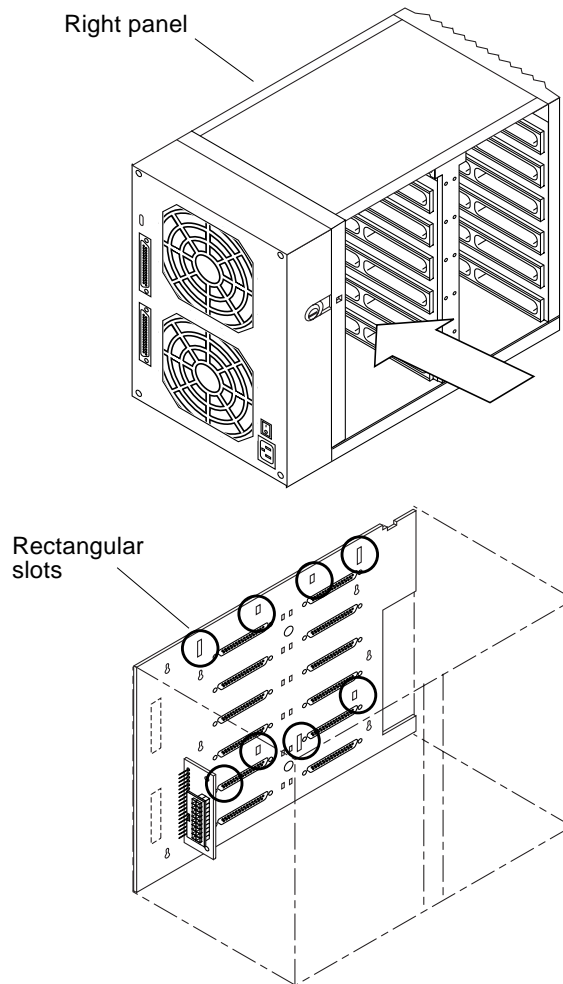

FIGURE 5-5 Rectangular Slots on Backplane
Note – The right panel is held onto the chassis by **eight** plastic tabs that hook into holes in the chassis wall. The backplane is attached to the other side of the chassis wall. You must unhook the tabs without removing the backplane by accessing the tabs through slots in the backplane (FIGURE 5-5).
5. **Facing the left side of the unit, find the rectangular slots on the backplane (FIGURE 5-5). You may need to use a flashlight.**